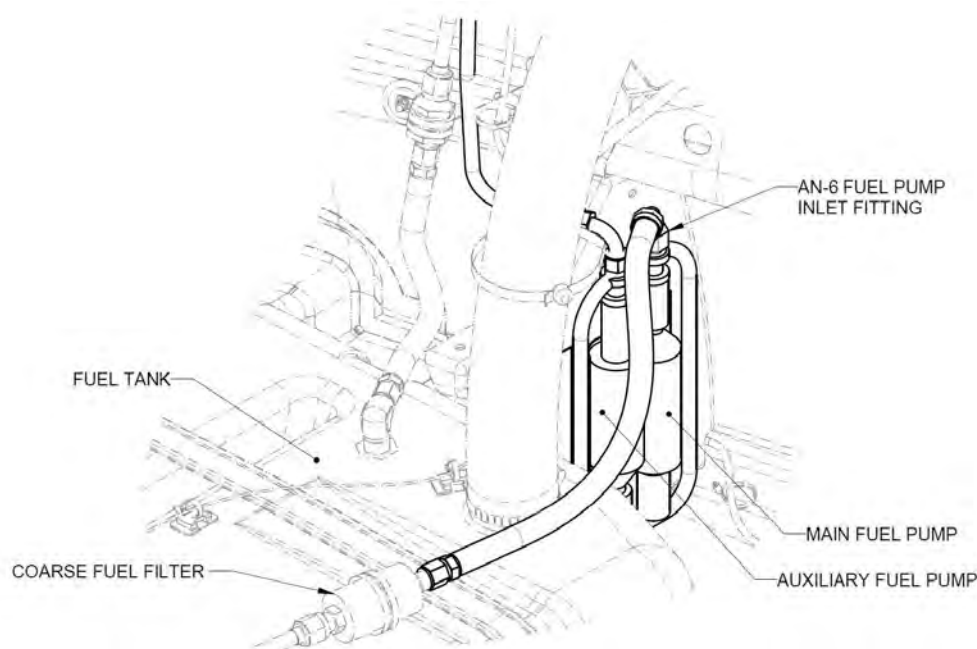

FIGURE 10-19
2. Apply the THREADLOCKER to Fuel Pump studs and install 4x WASHER and 4x M6 nuts previously removed. (See Figure 10-19.) Torque to 30-35 in-lbs.
4. Connect the AN-6 Fuel Pump Inlet Fitting onto the Fuel Pump Inlet. (See Figure 10-19.) Torque fitting to 110-130 in-lbs.